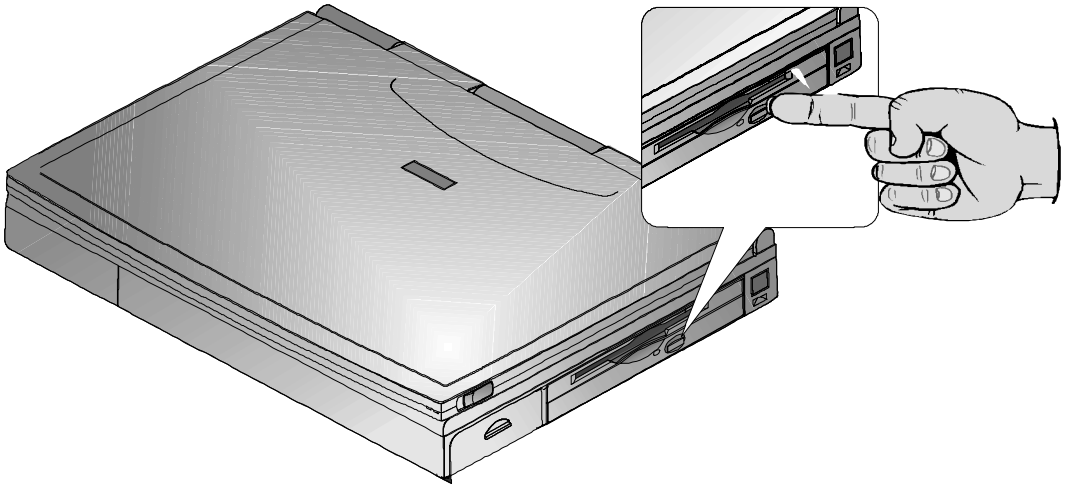
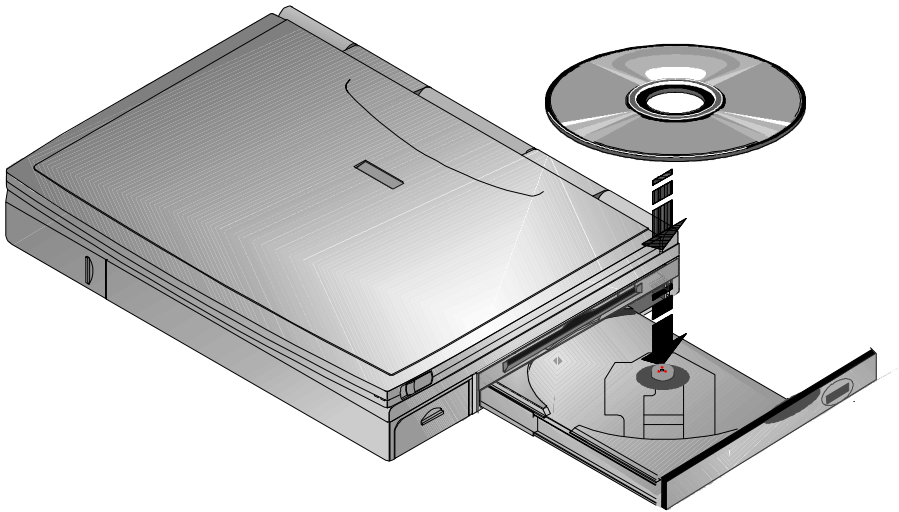

Figure 6-5: Ejecting the CD-ROMtray
Figure 6-6: Loading a CD into the Combination Module
To load a disk into the CD-ROM/FDD Combination module, please refer to figure 6-5, figure 6-6 and the following instructions.
1. Press the eject button. The motorized tray ejects from the drive. (Figure 6-5)
2. Place the disc into the tray with the CD's label facing up. (Figure 6-6)